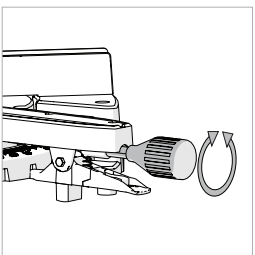

Fig. 30
- Loosen the Mitre Locking Handle **(Fig. 30)** by turning it anti-clockwise.